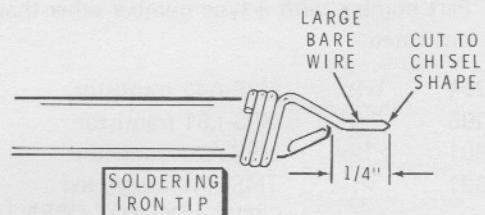

Figure 1
3. If a small wattage, small-tip soldering iron is not available, proceed as follows: Be sure your soldering iron is cool. Wrap the large bare wire (supplied) tightly around the soldering iron tip as shown in Figure 1. Allow approximately 1/4" of wire to extend beyond